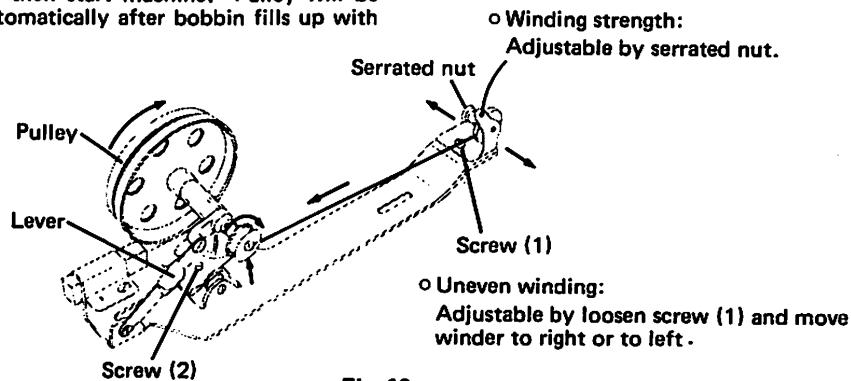

Fig. 12
2. Lead thread as shown by Fig.12 and wind several times on bobbin.